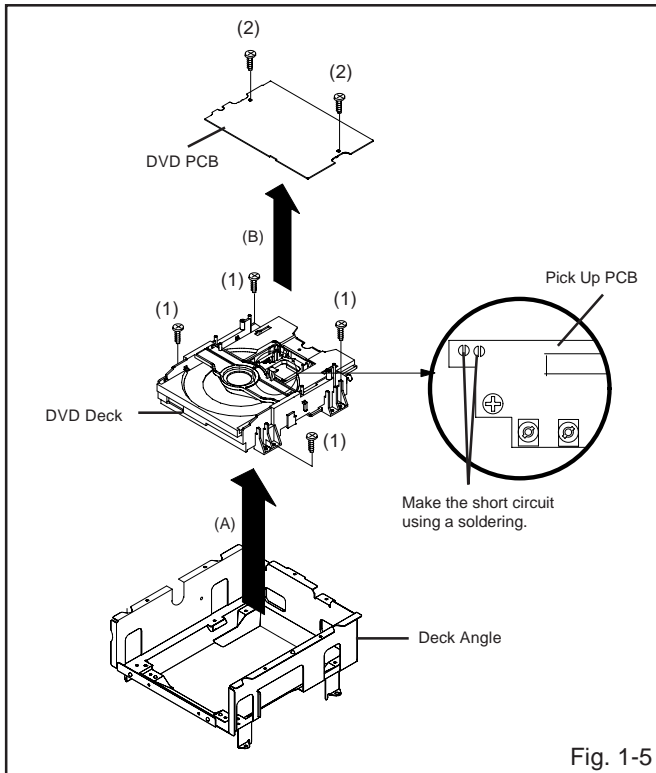

Fig. 1-5
## 1-5: DVD PCB/DVD DECK (Refer to Fig. 1-5)
1. Make the short circuit on the position as shown **Fig. 1-5** using a soldering. If you remove the DVD Deck with no soldering, the Laser may be damaged.
2. Remove the 4 screws (1).
3. Remove the DVD Deck in the direction of arrow (A).